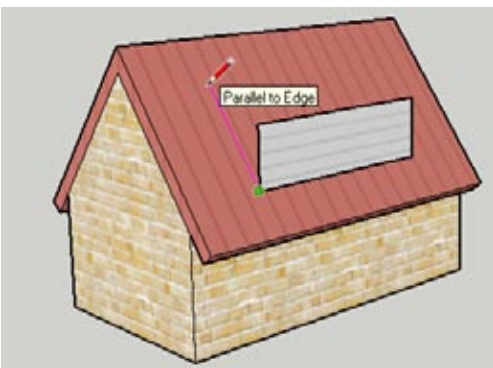

Figure 5-27
5. For the side face, start a line at the lower-left dormer corner and hover over the side edge of the roof to infer the slope of that edge. Draw a line parallel to that edge (Figure 5-27).